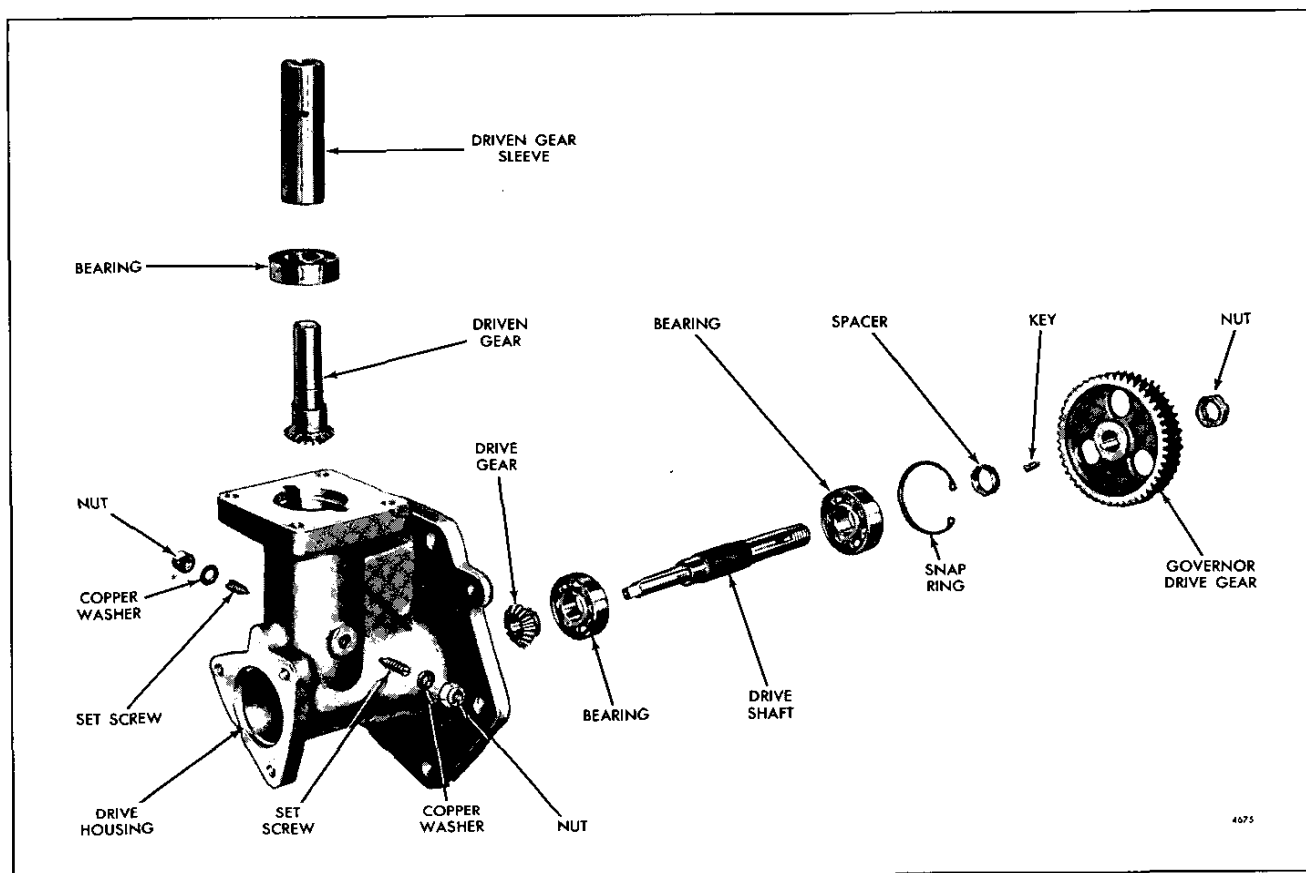

Fig. 3 – Hydraulic Governor Drive Details and Relative Location of Parts
4. Loosen the two driven gear bearing retaining set screw lock nuts (Fig. 3), then back the set screws out of the housing enough to free the bearing.